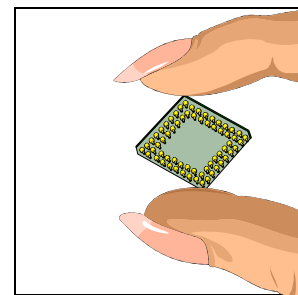

Figure 2: Handle components by edges to prevent contaminating leads with skin oil.
8. Components should be handled by the edges when possible. Avoid touching the component leads. (See Figure 2).